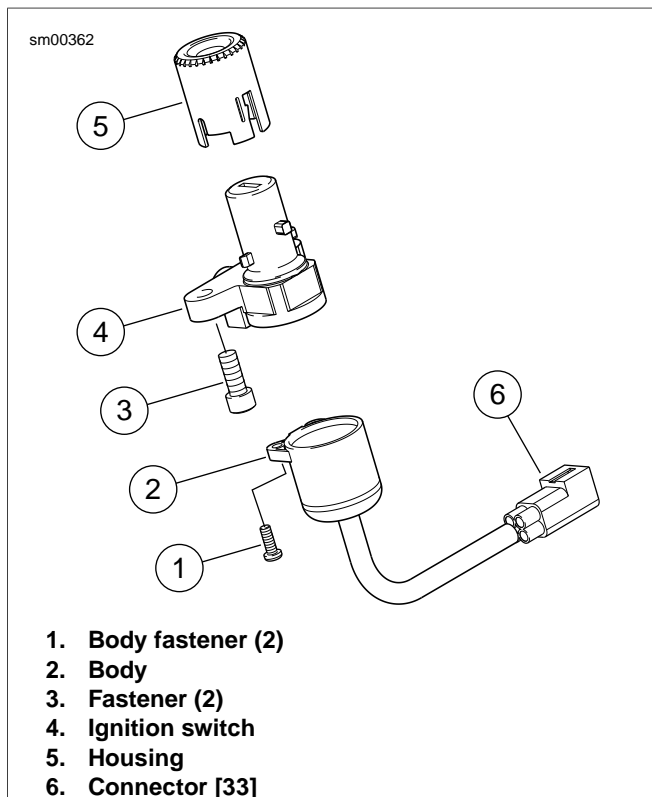

Figure 6-6. Ignition Switch Assembly: Firebolt
8. Remove upper fork clamp pinch fasteners (1).
9. Hold or brace the lower fork clamp and remove steering stem capnut (3).
10. Remove the upper fork clamp (4) from forks.
11. See Figure 6-6. Use SNAP-ON TAMPER-RESISTANT T45 TORX DRIVER (Part No. FTXR45E) to remove ignition switch fasteners (3) securing ignition switch (4) to upper fork clamp. Slide ignition switch out of upper fork clamp.
1. See Figure 6-6. Remove ignition switch housing (5) from ignition switch (4) by prying tabs on side of housing.
2. Remove ignition switch body fasteners (1). Separate ignition switch body (2) from ignition switch (4).
See Figure 6-6. In next step, be sure wide slot in ignition switch housing (5) is installed over wide boss on ignition switch (4).
1. Push ignition switch housing (5) on to ignition switch (4).
- See Figure 6-6. Attach ignition switch assembly to upper triple clamp using ignition switch fasteners (3). USE LOCTITE 271 (red) on fasteners. Tighten to 18-20 ft-lbs (24.4-27.1 Nm).